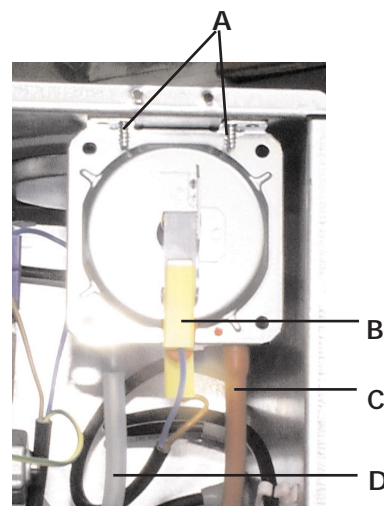

Fig. 34
7.06 Air pressure switch (fig. 34)